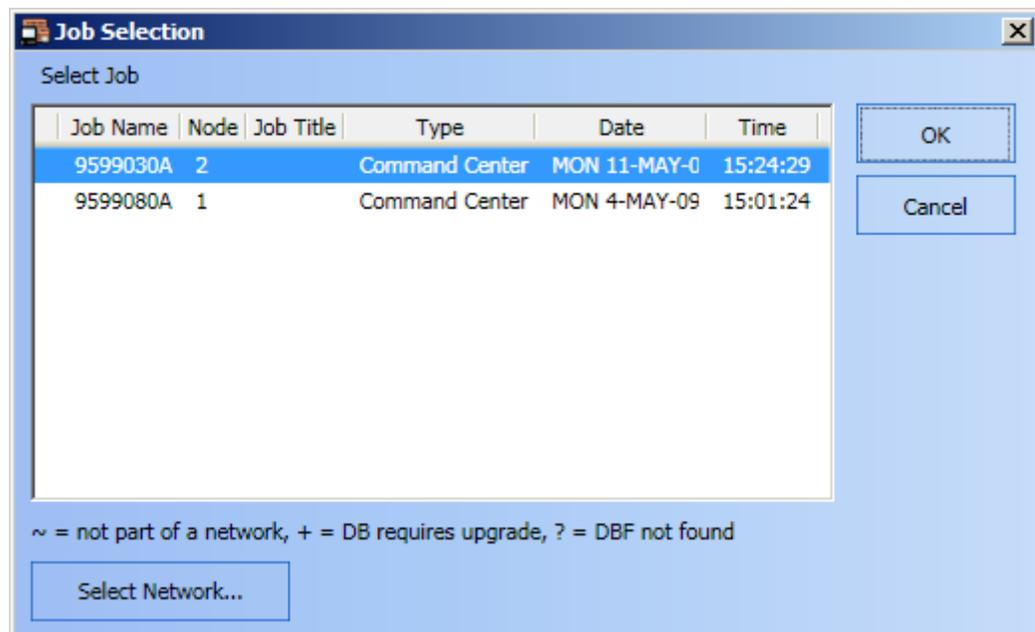

Figure 3-5 Job Selection Dialog with Loaded Jobs List
5. After selecting the site, a list of jobs related to the corresponding site appears listed in the **Job Selection** dialog box, as shown in Figure 3-5.